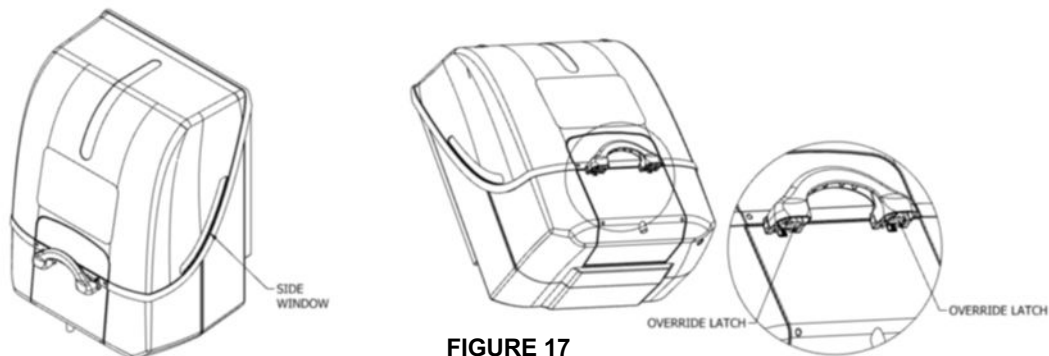

FIGURE 17
2. Visually inspect easy Break Security Tag is intact (Ref Figure 17).
2. To inspect Nozzle Assembly, open Tray Assembly utilizing Supervisory Override Latch. Override Latches are located on underside of handle (Ref Figure 17). Both latches must be depressed to allow tray to open. **Note:** The only way to open Tray Assembly without breaking easy Break Security Tag and activating Fluid Cartridge is to use the Override Latch.